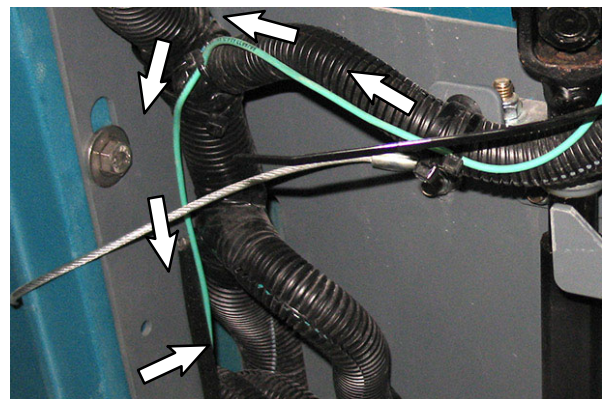

FIG. 6
5. Continue routing green wire (1) along the main wire harness and into the hole in the side of the steering channel. (Fig. 6)